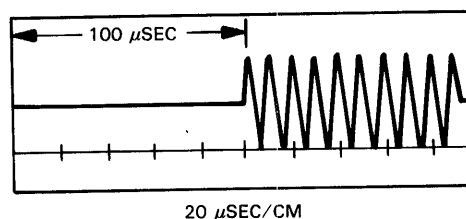

Figure 5-29. Index and Sector Sensing Alignment Waveform
9. Expand oscilloscope time base to 20 μ sec/cm (Figure 5-29).